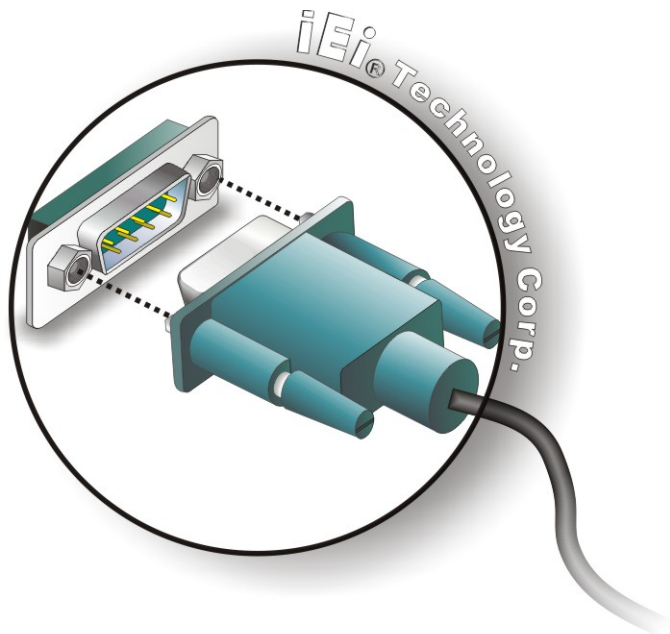

Figure 4-17: Serial Device Connector
Step 2: Insert the serial connector. Insert the DB-9 connector of a serial device into the DB-9 connector on the external peripheral interface. See **Figure 4-17**.